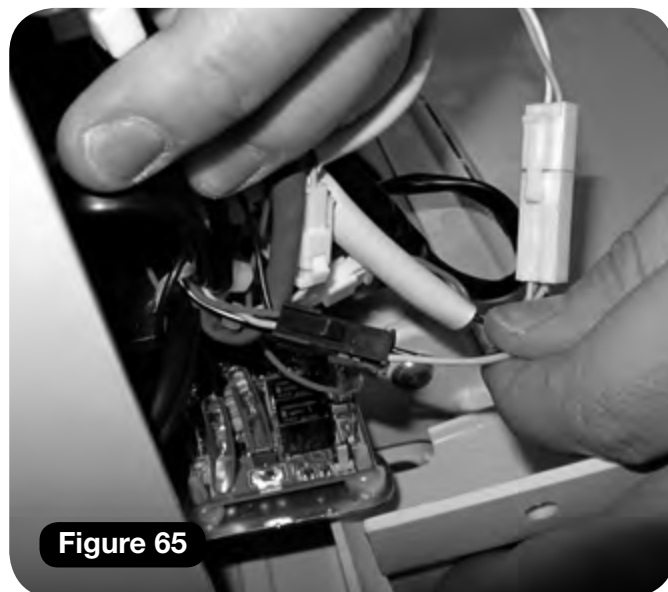

Figure 65
- 3 Connect the main seat loom (brown and pink) to the chassis loom (red and pink) – two black connectors. (**Figure 65**).